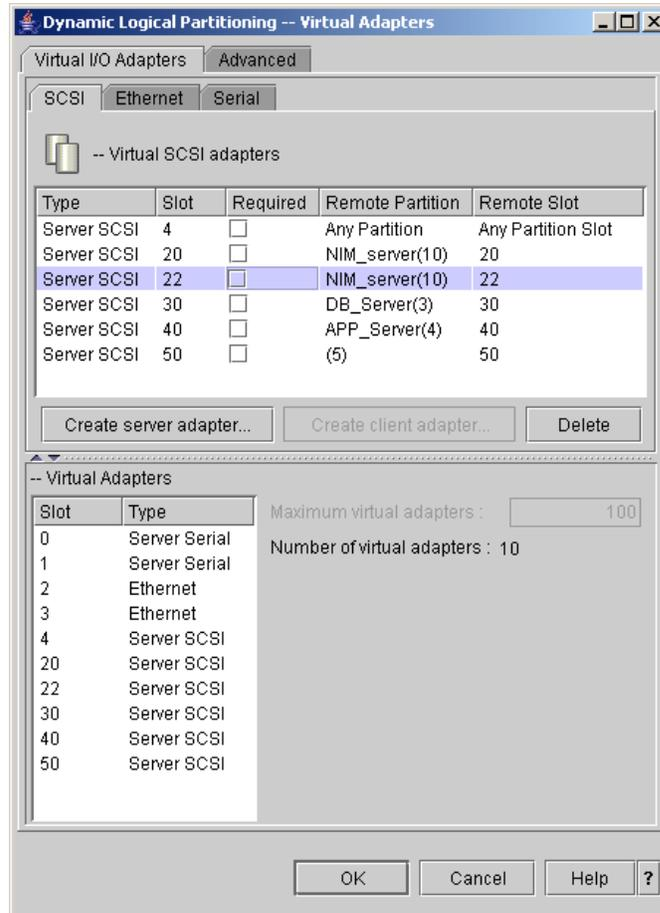

Figure 5-5 Window after creating the server virtual SCSI adapter
7. The results of this operation are shown in Figure 5-5.